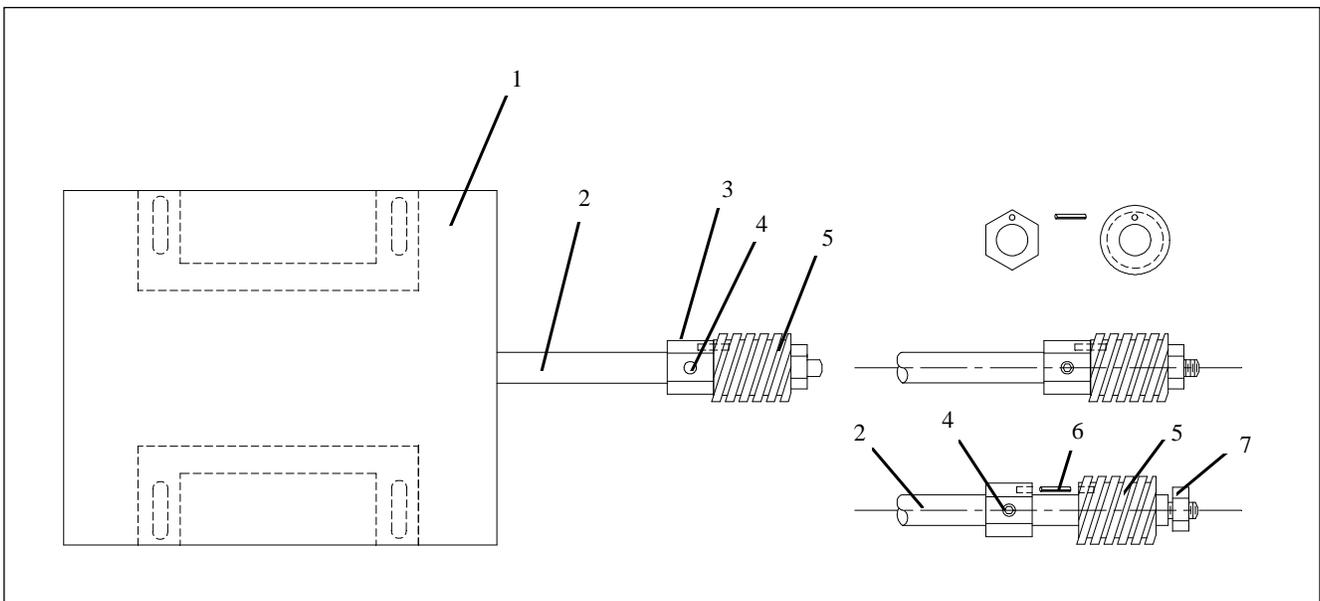

Figure 7. Worm Assembly
4. See Figure 7. Remove the motor (1) and then remove the worm (5) on the end of the motor shaft (2) by loosening and removing the hex nut (7) on the end of the motor shaft.